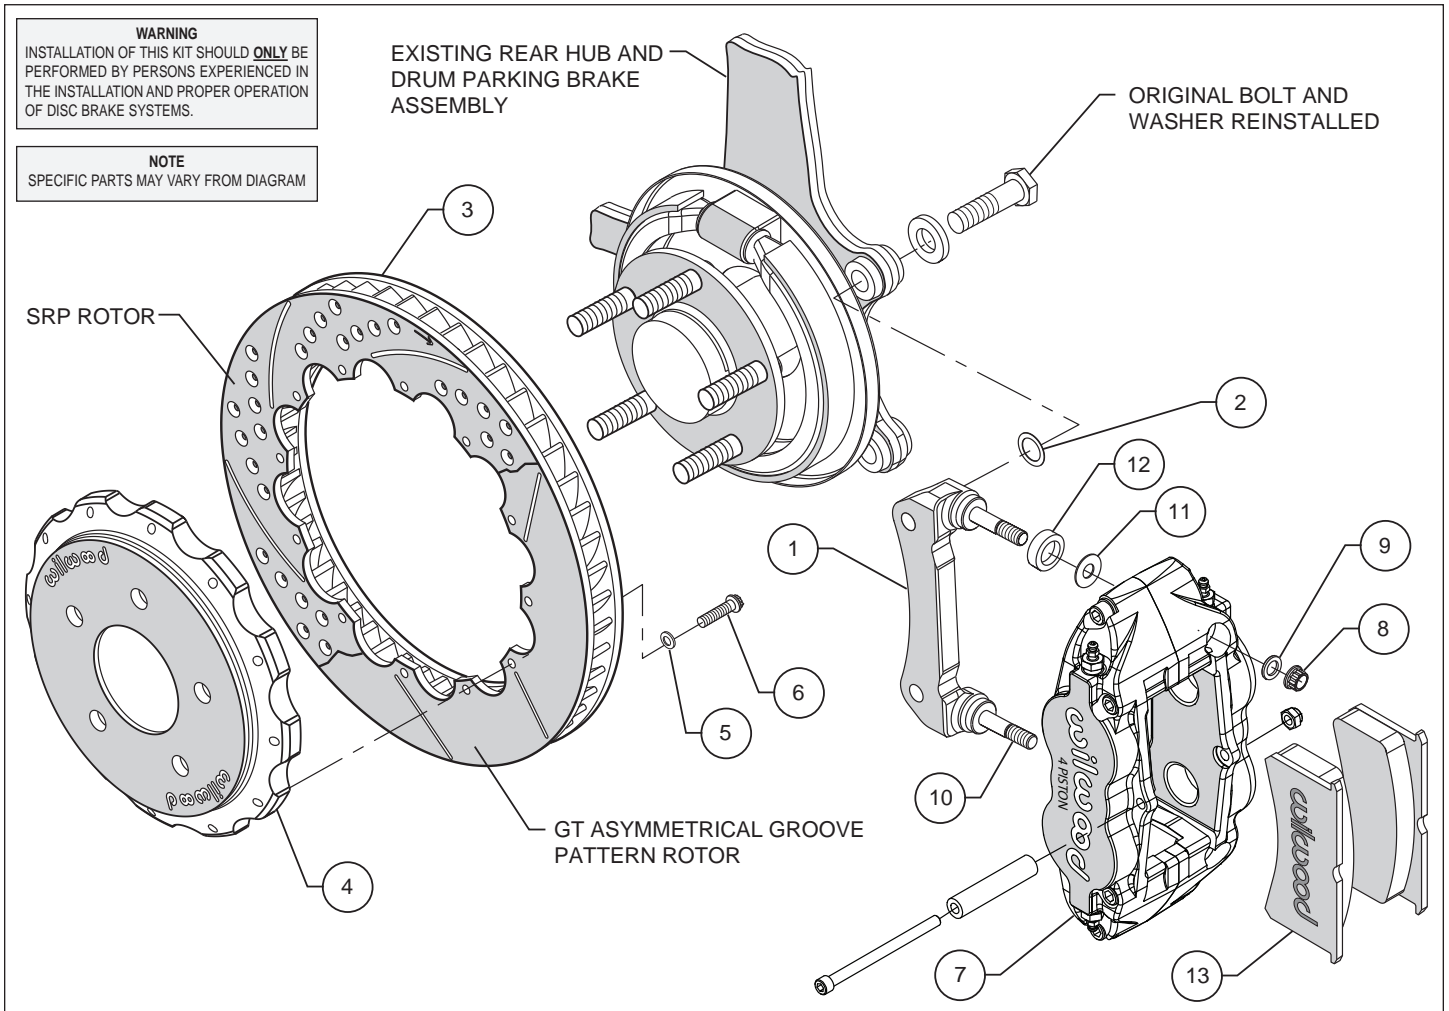
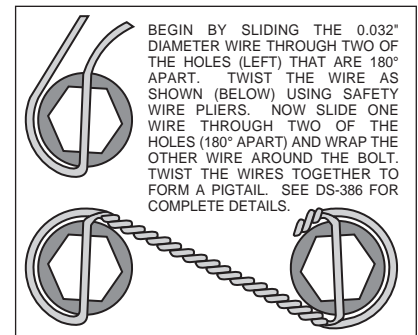

Figure 1. Typical Installation Configuration
Figure 3. Safety Wire Diagram
- Assemble the rotor (3) to the hat (4) with the bolts (6) and washers (5) as indicated in the configuration pictured in Figure 1. Using an alternating sequence, apply red *Loctite*® 271 to the threads and torque bolts to 155 in-lb. For an added measure of security, the bolts may be safety wired using standard 0.032 inch diameter stainless steel safety wire as shown in Figure 3. Please refer to Wilwood's data sheet DS-386 for complete safety wire installation